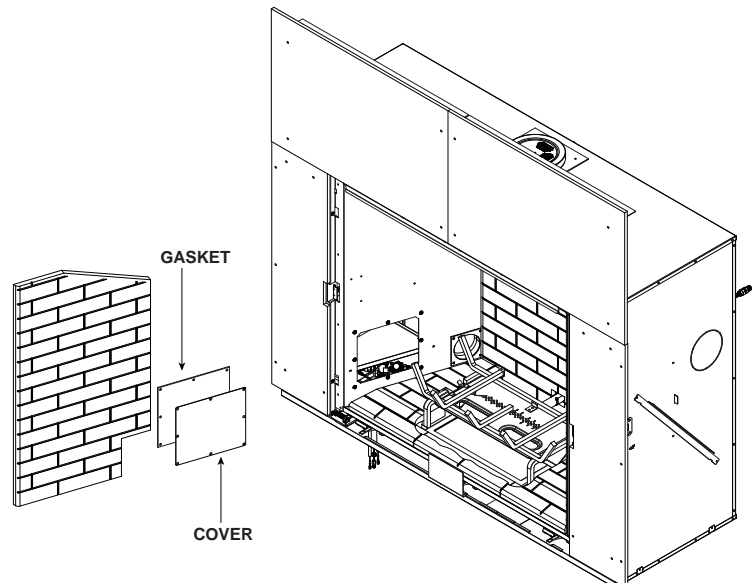

Figure 12.2 Junction Box Access
- The junction box is accessible through the front left column if finishing materials have not been installed. The junction box is also accessible through the firebox access panel. See Figure 12.2.